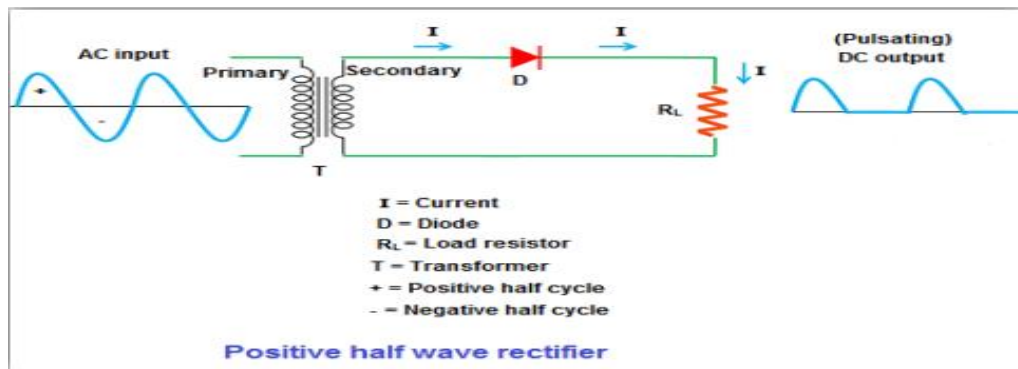

Figure 5 Positive half-wave rectifier
In a positive Half-Wave Rectifier, the diode is forward biased and current flows through it during the positive half cycle of the AC voltage; in this case, the diode appears as a short circuit. The diode will be reverse biased and current flow will be blocked during the negative half cycle of the AC voltage. The final output voltage waveform on the secondary side (DC) is shown in **Figure 5**